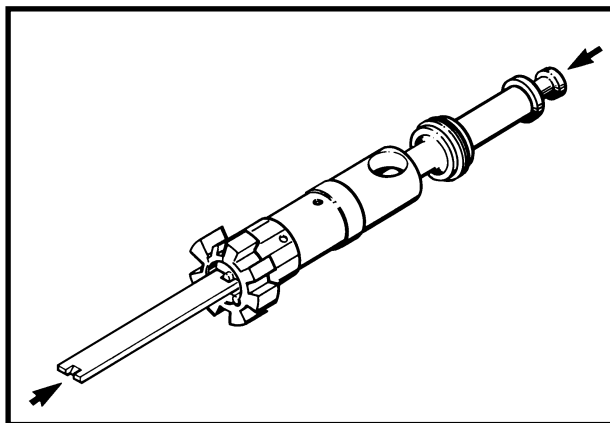

Figure 4-1 Gauging Firing Pin Protrusion
- d. Gauge firing pin protrusion. See Figure 4-1.